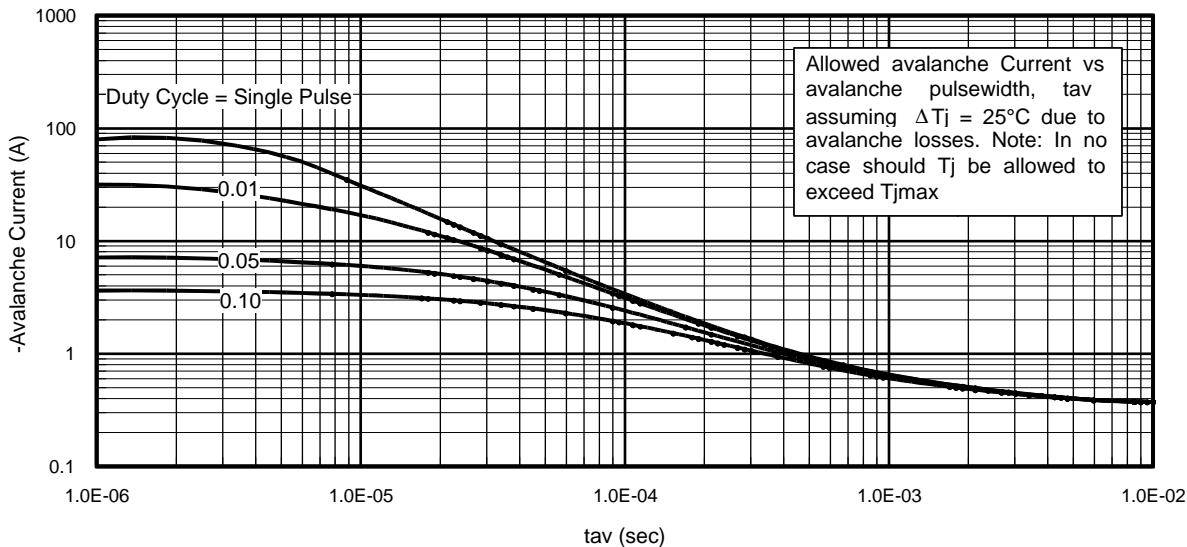

Fig 14. Typical Avalanche Current Vs. Pulsewidth
**Notes on Repetitive Avalanche Curves , Figures 14, 15:
7.  $\Delta T$  = Allowable rise in junction temperature, not to exceed  $T_{jmax}$  (assumed as 25°C in Figure 14, 15).
- ① Repetitive rating; pulse width limited by max. junction temperature.
- ② Starting  $T_J = 25^\circ\text{C}$ ,  $L = 1.24\text{mH}$ ,  $R_G = 25\Omega$ ,  $I_{AS} = -14\text{A}$ .
- ③ Pulse width  $\leq 400\mu\text{s}$ ; duty cycle  $\leq 2\%$ .
- ④ This only applies for I-Pak,  $L_S$  of D-Pak is measured between lead and center of die contact
- ⑤  $R_\theta$  is measured at  $T_J$  of approximately  $90^\circ\text{C}$ .
- ⑥ Contact factory for mounting information
- ⑦ Limited by  $T_{Jmax}$ . See Figs. 14, 15, 17a, 17b for repetitive avalanche information
- ⑧ When D-Pak mounted on 1" square PCB (FR-4 or G-10 Material). For recommended footprint and soldering techniques refer to application note #AN-994
- ⑨ Refer to D-Pak package for Part Marking, Tape and Reel information.